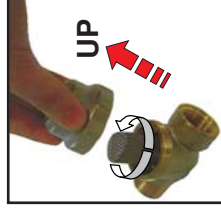

Fig. 4
12. Clean the sole no id filters weekly (I & J). Open the filter by unscrewing it in an anti-clockwise direction (Fig.4).